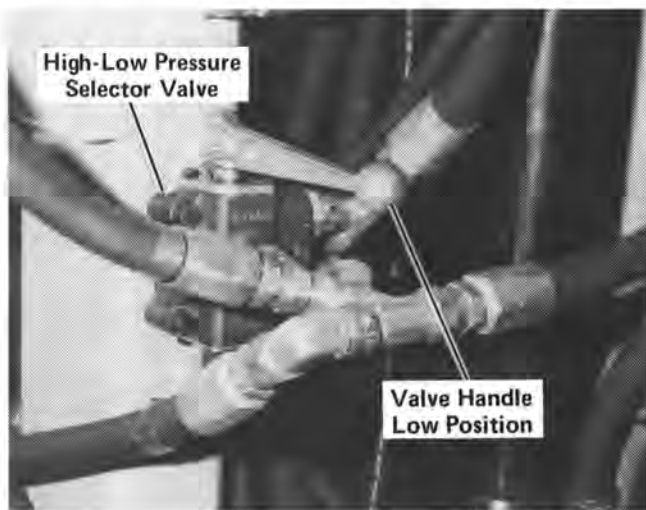

Figure 50
3. Position the High-Low Pressure Selector Valve handle into the low or horizontal position. See Figure 50.